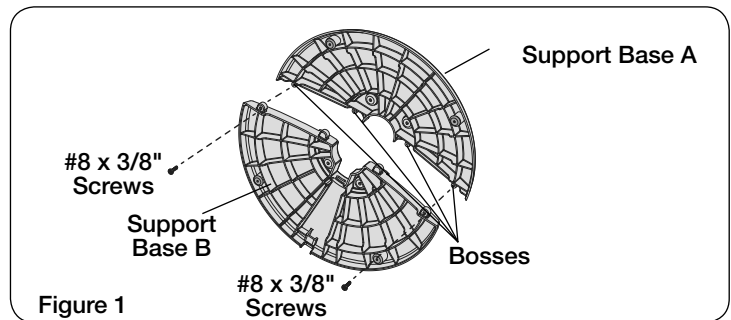
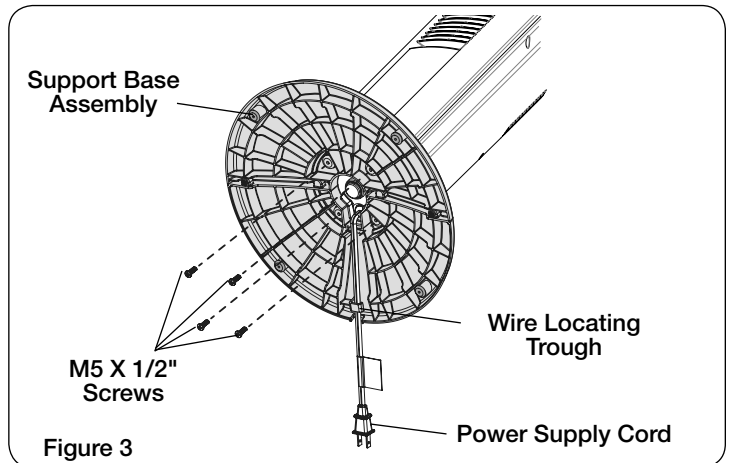

Figure 1
Figure 3
2. Assemble the Support Base Halves by interlocking the Bosses on Support Base A into the Boss Holes on Support Base B. Secure (2) #8 X 3/8" Screws into the two outer holes in the bottom of the Base. (Figure 1)
4. Align the Support Base Assembly with the Motor Base, noting that the cord channel on the bottom of the support base assembly should be towards the back of the Fan. Attach the Support Base Assembly to the Motor Base with 1/2" Long M5 Screws. Make certain to align the Key on the Support Base Assembly with the Locating Notch on the Motor Base. (Figure 1) Gently pull any excess slack of the Power Supply Cord and place it in the Wire Locating Trough. (Figure 3)